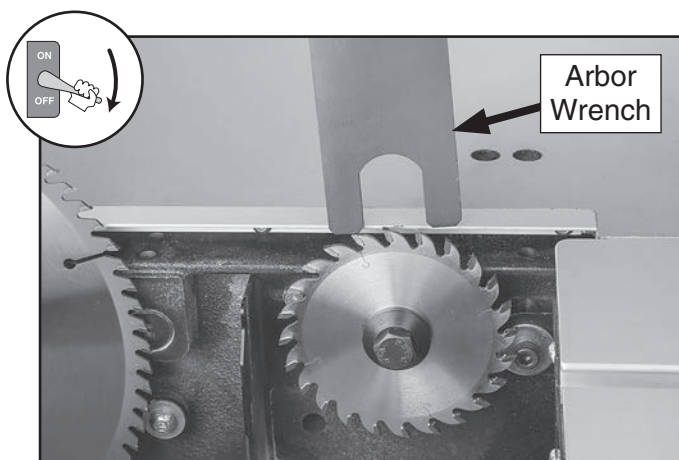

Figure 87. Inserting arbor wrench behind scoring blade to prevent blade from spinning.
5. Slide arbor wrench behind scoring blade onto flats of arbor (see **Figure 87**) to prevent blade from spinning.